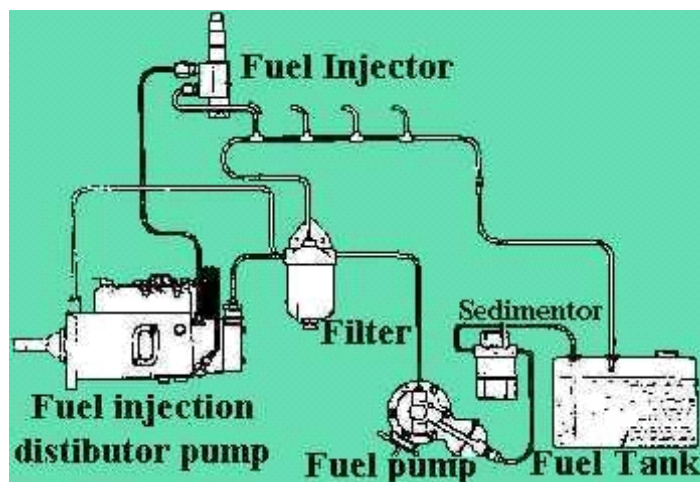

Fig. 2.12.6 Engine Fuel System
2. (Refer to Figure 2.12.6 below and page 86 of participant handbook) Explain the Engine Fuel system to the participants